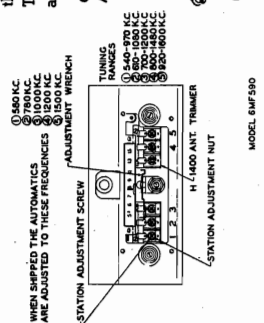

FIG. 5
as shown in Fig. 5. The adjustments are made by means of a special wrench held to great advantage in setting the stations. In position by a clip as shown in Fig. 5 and This eye will enable you to get an accurate using this wrench, the adjustments are setting regardless of signal strength, and the antenna trimmer H (see Fig. 5) made as follows:
1. Select a station within the range of adjustment No. 1 (Fig. 5). The range of the jumper shown on the test socket in Fig. 1 is provided so that an output meter adjustments is shown in Fig. 5.
3. Adjust the No. 1 screw (see Fig. 5) with a wrench provided until the desired station is tuned to the fondest point.
4. Adjust No. 1 nut (see Fig. 5) for maximum signal.